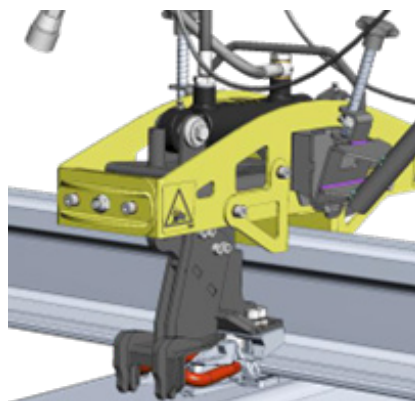

Fig 48.
3. Push the machine forward until the claws are correctly placed along the clips ("Fig 48."). Make sure that the claws are placed in a proper position relative to the clip.